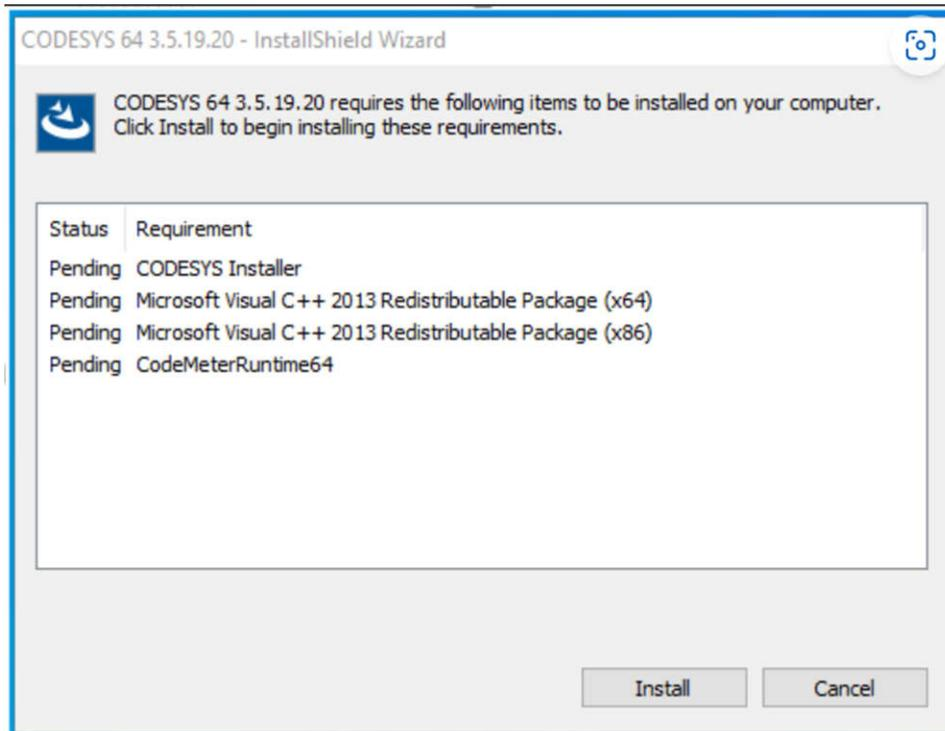

Figure 7-1. CODESYS Development System Installation Dependencies
- c. These dependencies potentially include in Figure 7-1